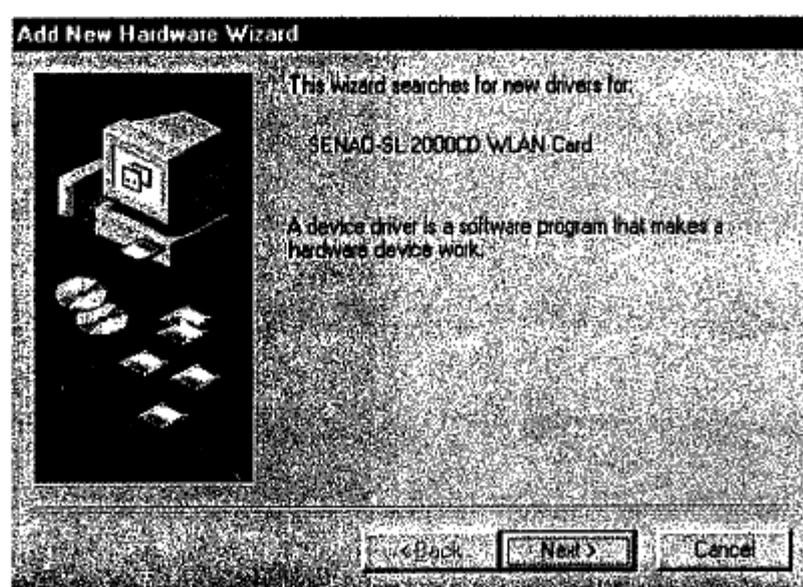

Figure 3-9
3. Windows will automatically detect your PC Card. Once Windows has identified the PC Card, it then prompts a dialog box titled "Add New Hardware Wizard" as shown in Figure 3-9. Then click "Next".